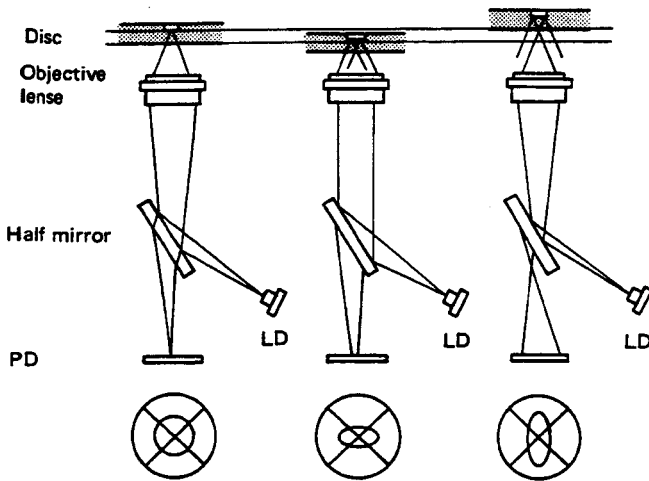
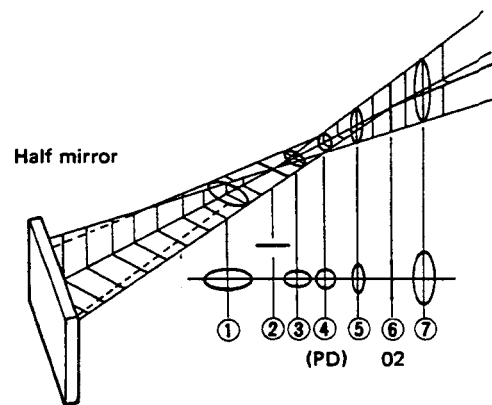

Fig. 2-3
Fig. 2-4 Half mirror
Fig. 2-3 shows how the focus signal is detected. (1) is when the beam from the laser diode is accurately focused on the disc by the objective lens. (2) shows what happens when the disc comes closer to the pickup and (3) shows what happens when the disc moves farther away. The grating and concave lens, which have no direct effect on the focusing are not shown in the diagram.
In case (1), the beam emanating from point O1 is reflected and diffracted on the disc surface to produce the condensed beam (O2). In case (2), the beam is directed at a point farther than that of beam O2. Fig. 2-4 shows the properties of the half mirror. 1 through 7 shows the shape of the beam at each point. Between points 2 and 6, which are in a straight line, the beam is circular at point 4. Point 6 corresponds to beam O2 of fig. 2-3. If we assume that fig. 2-4 shows mode (1) of fig. 2-3, that means the beam is circular because the photo diode is located at point 4. In mode (2) of fig. 2-3, the location of the photo diode is closer to the cylindrical lens than it was in fig. 2-4. That means the shape of the beam is the same as that of point 3 (an ellipse that has a longer width than height). In mode (3) of fig. 2-3, the shape of the beam is that of point 5, an ellipse that has a longer height than width.
These beam shapes are shown in fig. 2-3. By performing a $(A + C) - (B + D)$ computation using the λ -D photo diode quartering elements, the focus signal is produced.
If the objective lens is moved closer to the disc until point 7 of fig. 2-4 is reached, the shape of the beam at the photo diode becomes an ellipse that is higher than it is wide.